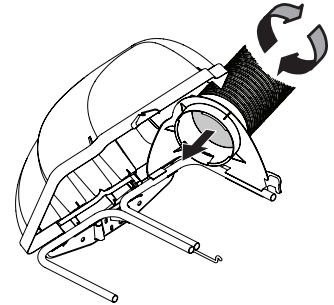

Figure 23
- Thread the upper end of the hose (764-05082) securely into the upper chute support. There are three stops on the lower inside part of the upper chute support to allow for secure threading. See Figure 23.